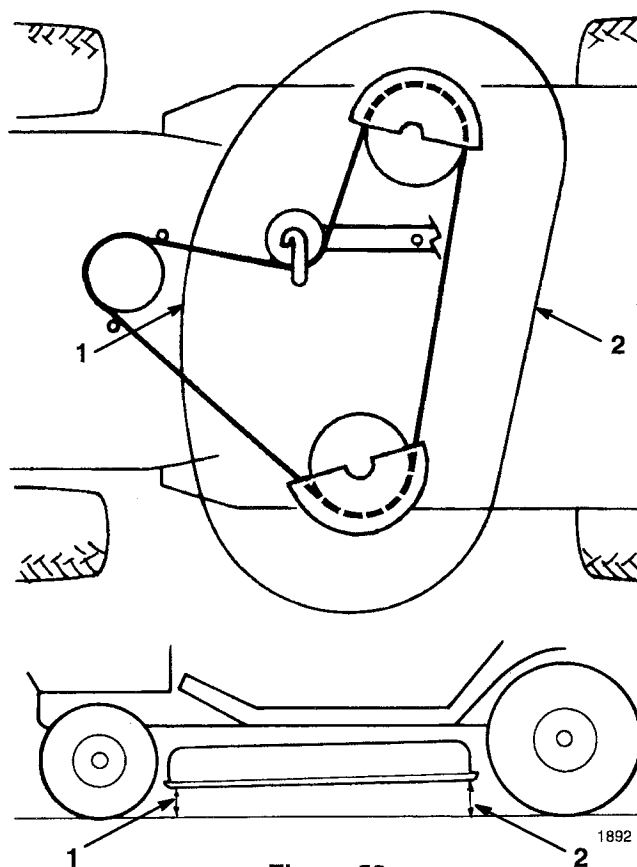

Figure 52
4. Check the front to rear slope by measuring between the bottom of the mower (front center and rear center) and the flat surface (Fig. 52). If the front of the mower is more than 3/16" (4.7 mm) lower than the rear of the mower, an adjustment is required.